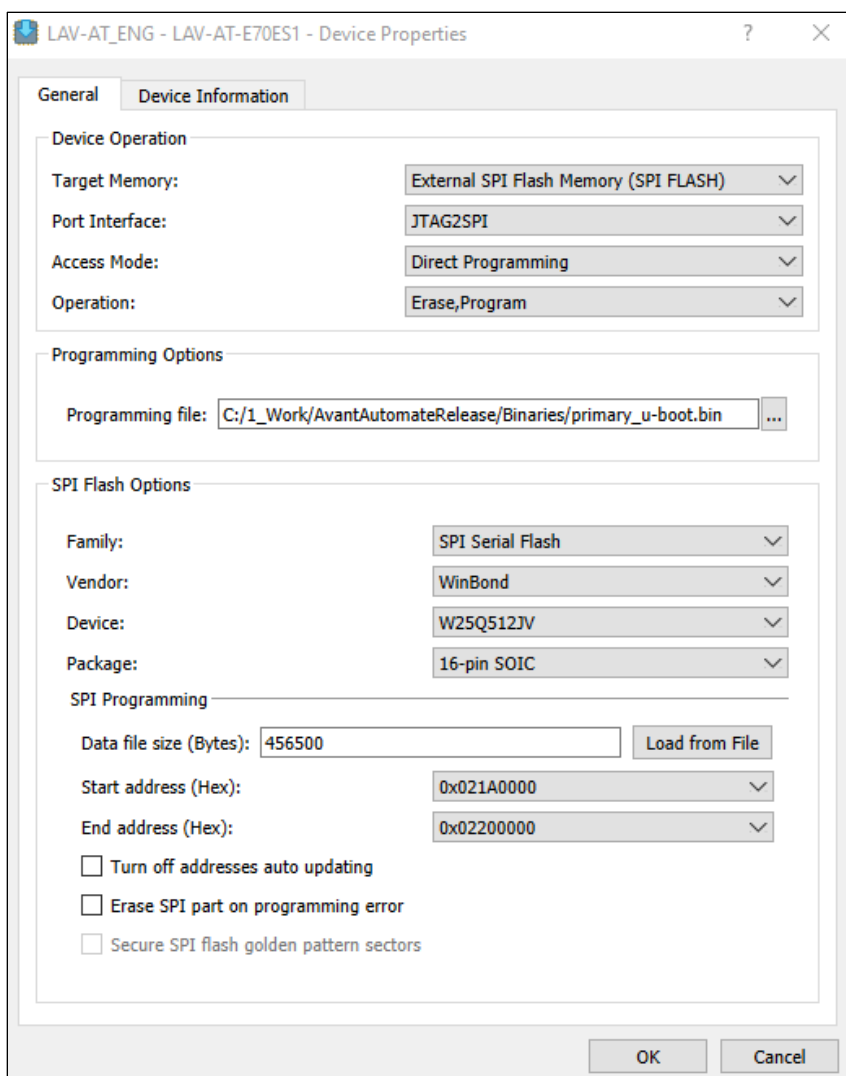

Figure B.9. Radiant Programmer – Program Primary u-Boot Binary
14. To program the uBoot binary, select the primary_u-boot.bin binary file under the Programming Options. Refer to Figure B.9. Make sure that the following addresses are correct: